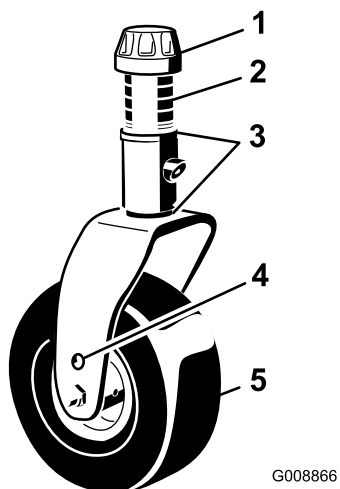
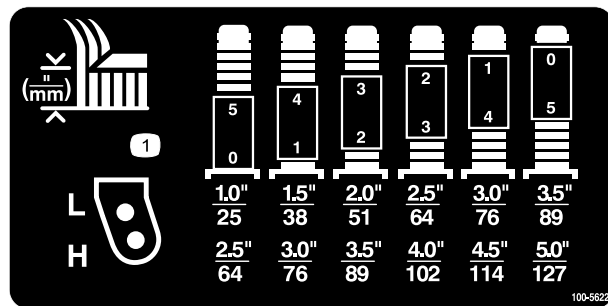

Figure 6
Figure 7
2. Position the castor wheel axles in the same holes in both castor forks. Refer to Figure 6 and Figure 7 to determine the correct holes for the setting.
3. Remove the tensioning cap from the spindle shaft (Figure 6) and slide the spindle out of the castor arm. Put the 2 shims (1/8 inch) onto the spindle shaft as they were originally installed. These shims are required to achieve a level across the entire width of the cutting units. Slide the appropriate number of 1/2 inch spacers onto the spindle shaft to get the desired height of cut; then slide the washer onto the shaft.
- Refer to Figure 7 to determine the combinations of spacers for the setting.